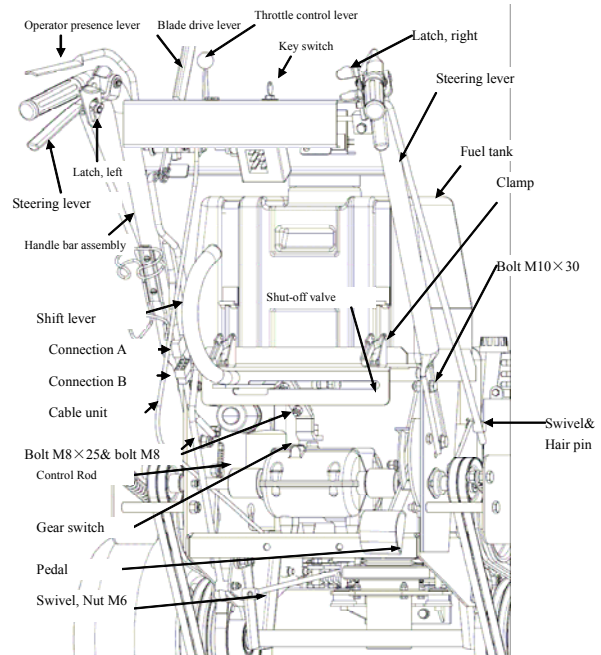

FIG6
- Fuel shut-off valve: The fuel shut-off valve is used to shut off the fuel when the machine will not be used for a few days, during transport to and from the jobsite, and when parked inside the building. see FIG6
- Attach the handle with four Hex Hd Bolts, Locknuts on each side as show in FIG6
- Each of the control rods must be connected. Follow the instructions to properly adjust each of the controls as show in FIG6.
- Attach the pedal to the console frame with bolt M6*12 and washer.See FIG6
- Put the fuel tank into the position and lock it as show as in FIG 6